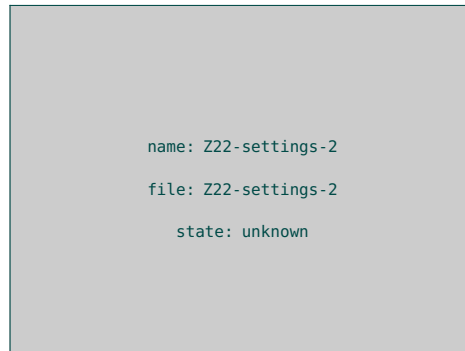

**Figure 3** Ensure correct alignment of magnet disk and sensor.
- Take care that the magnets in the disk are approximately in the same height as the sensor, see figure 3.